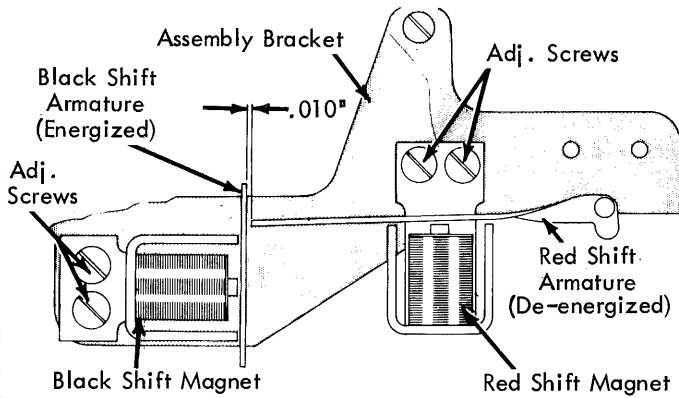

FIGURE 271. Magnet Positioning
2. Black Shift Magnet - With the black shift magnet armature energized and the red shift magnet armature de-energized, position the black shift magnet for a clearance of .010" between the black and red shift armatures (Fig. 271).